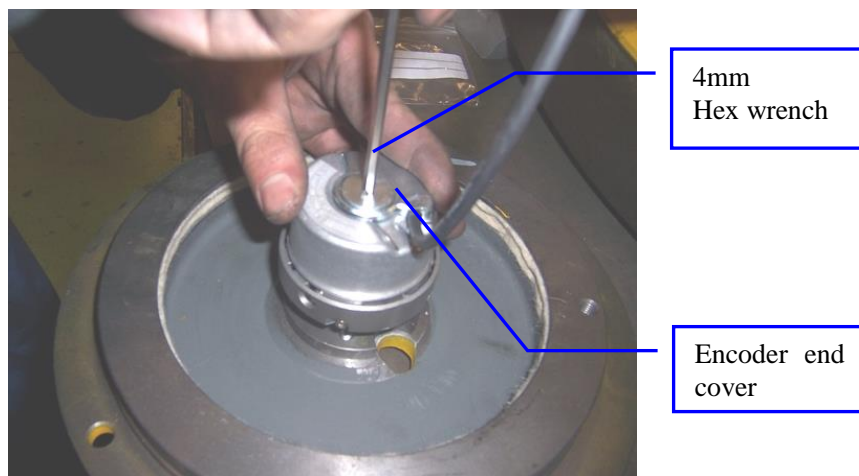

Figure 11: Remove Encoder end cover
6. Remove the encoder end cover using the hex wrench (4mm). See Figure 11.